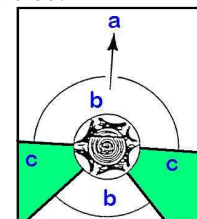

Fig.12
The escape path should extend back and diagonally to the rear of the expected line of fall as illustrated in Fig.12.
Felling can start only under the condition that escape way form the felling tree is provided, see Fig.12: (a) tree felling direction; (b) Danger zone; (c) Escape route.
2. While clearing the area around the tree, arrange a good foothold and retreat path (Fig.12).